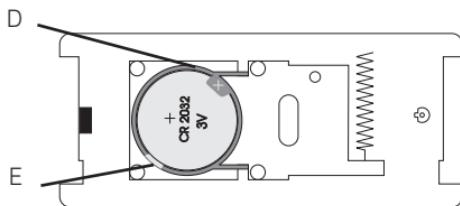

Figure 2: Battery compartment
- e) Insert the battery (coin cell CR 2032) into the plastic support on the PCB (fig. 2 D).
- f) If you would like to replace a battery, remove the old one with a small flat screwdriver from its plastic support by lifting the edge slightly (fig. 2 E). Afterwards you can insert a new battery. Kindly ensure correct polarity of the battery.